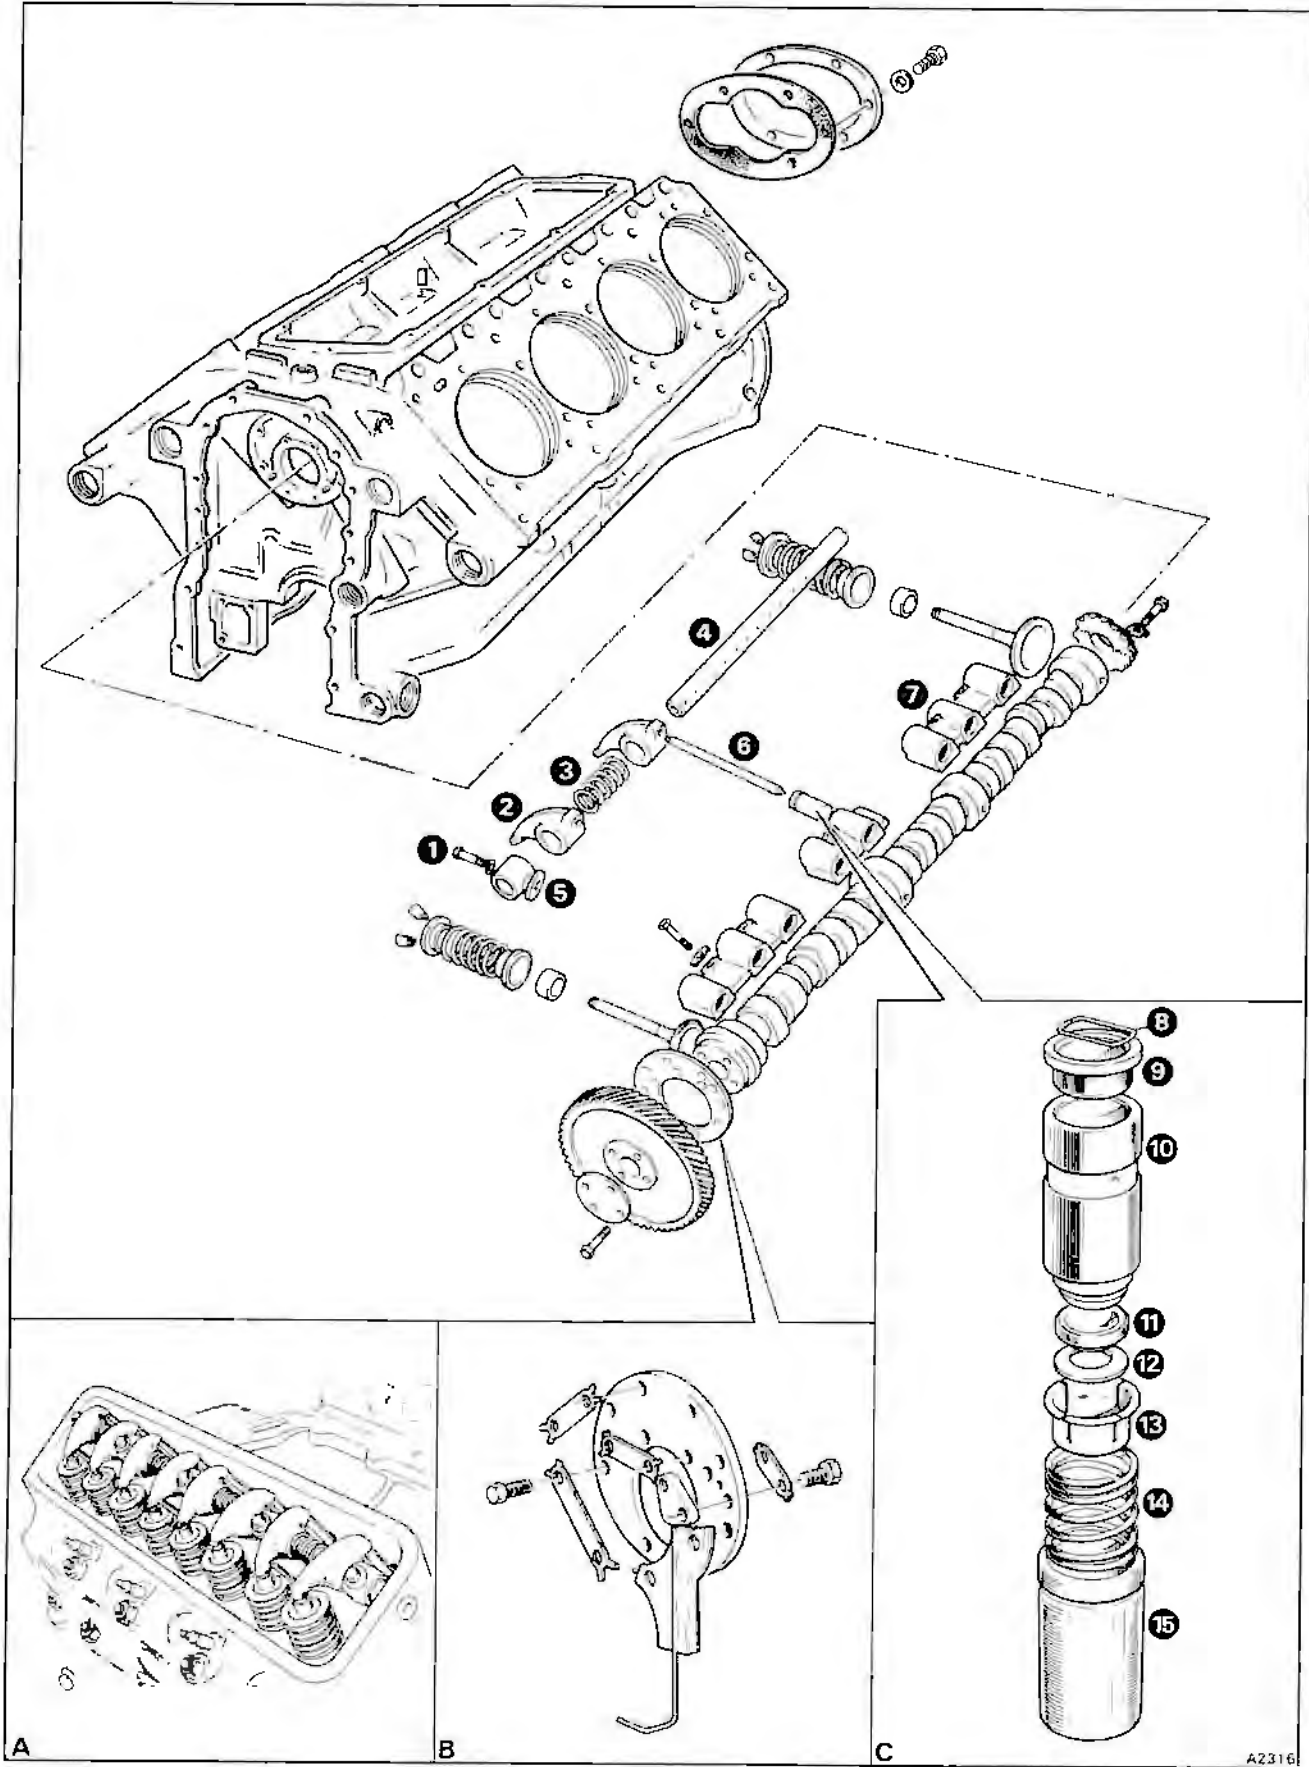

Fig. E7-1 Camshaft and valve mechanism
Rocker shaft assembly – To remove and dismantle (see fig. E7-1)
Rocker shaft assembly – To inspect (see fig. E7-1)
Rocker shaft assembly – To assemble and fit (see fig. E7-1)
Push rods – To remove, inspect, and fit (see fig. E7-1)
Hydraulic tappets (see fig. E7-1, inset C)
Hydraulic tappets – To remove (see fig. E7-1)
Hydraulic tappets – To dismantle (see fig. E7-1)
(see fig. E7-1)
Hydraulic tappets – To fit (see fig. E7-1)
10. Remove the camshaft thrust plate together with the timing gear lubricating oil pipe assembly (see fig. E7-1, inset B). Withdraw the camshaft through the front end of the crankcase. Take care that the bearing bores are not damaged by the cam lobes.
Camshaft – To fit (see fig. E7-1)